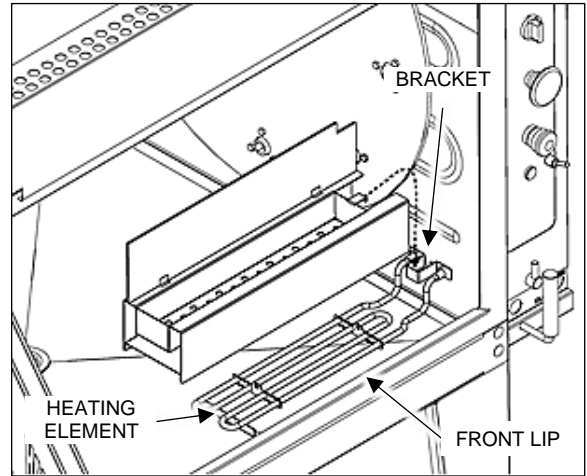

Figure 7-1
1. Insert the smoker box: align it to the front lip of the rotisserie and then slide it to the right of the oven, where the box can be fixed in place by hooking it onto the bracket (See Figure 7-1). Make sure the heating element fits correctly into place, in the smoker box.